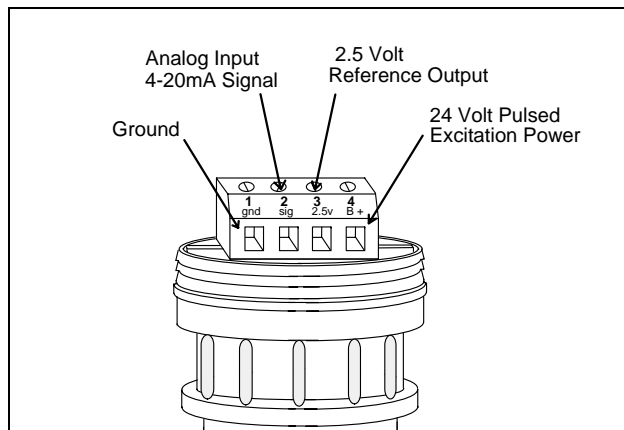

Fig. 1 IP-24VBMA Terminal assignment.
The four screw terminals are used to connect the sensor. If the sensor does not need excitation power, only two of the terminals are used. The first screw terminal (1) is common ground. The second screw terminal (2) is an analog input that has a useful input range of 0 to 20 milliamperes. It has a $125\Omega \pm 0.1\%$ input impedance to eliminate loop voltage loss. The next two screw terminals (3,4) offer excitation for the sensor. The third screw terminal (3) is a precision 2.500 volt excitation output. This output has minimal drive capability (5 milliamperes maximum). The power is pulsed on for a short duration then turned off. The length of the on time power pulse can be set when programming the Data Logger's header. The fourth screw terminal (4) is a 24 volt switched output. The voltage level of the 24 volt terminal does not depend on the battery system being used with the Data Logger. The 24 volts is generated even if the battery system may only be supplying 6 volts. The on-time is the same as that for the 2.500V precision excitation output. Fig. 1 shows the position of the screw terminals.